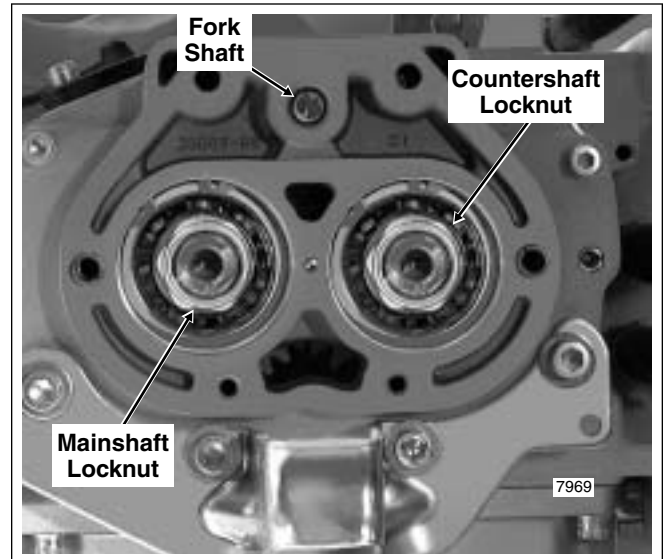

Figure 7-18. Remove Mainshaft/Countershaft Locknuts
8. Remove the locknut from both the mainshaft and countershaft. Use an air impact wrench for best results. See Figure 7-18. Remove the spacer from each shaft.